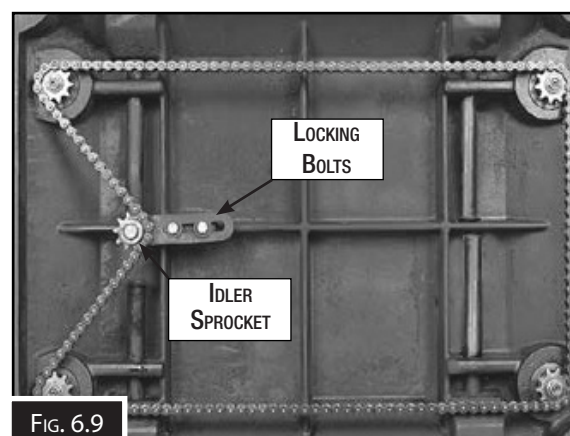

FIG. 6.9
2. Remove the front and rear cabinet panels to gain access to the table height chain system underneath the table. (Fig 6.9)